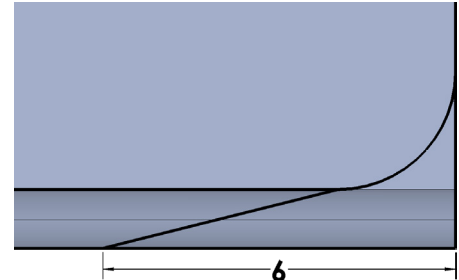

Fig. 33
Step 8. Click **Smart Dimension**  (S) on the Sketch toolbar.
Step 9. Add 6 dimension, **Fig. 33**.